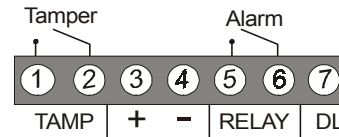

Figure 1: Terminal Block
7. **Connect the wires** to the terminal block (as shown in figure 1).